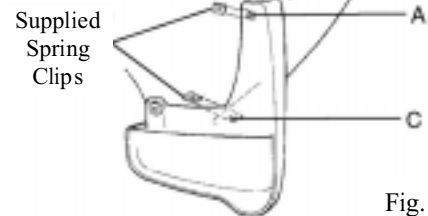

Fig. F-3
-  3. Install supplied spring clips with turned up edge on inside of bumper body panel at locations A and C (Fig. F-3).